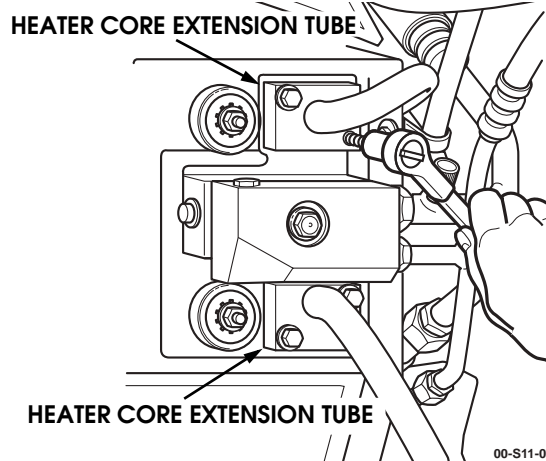

Figure 11-62: Heater Core Extension Tube Removal
5. Remove 4 bolts securing heater core extension tubes. Plug all open holes and discard all sealing washers (Figure 11-62).